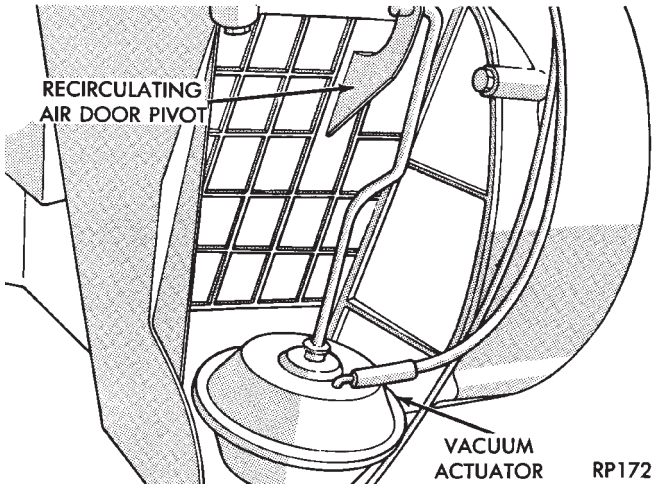

Fig. 5 Recirculating Air Door Vacuum Actuator—Typical
- (1) AA, AC or AY Body: Remove silencer cover under the instrument panel (below glove box).
- (2) Remove glove box assembly. Refer to Group 8E, Instrument Panel.
- (3) Disconnect vacuum lines.
- (4) Locate and remove the two vacuum actuator attaching screws.
- (5) Disengage the actuator arm linkage from the door pivot and remove the vacuum actuator (Fig. 5) from vehicle.